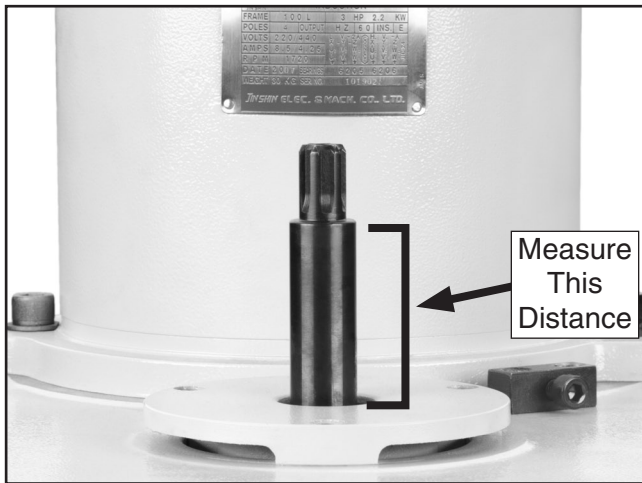

Figure 7. New bolt head inserted in the mill for measurement.
4. Insert the new bolt head into the top of the spindle, then measure the distance from the top shoulder of the bolt head to the mounting surface of the motor assembly (see **Figure 7**).